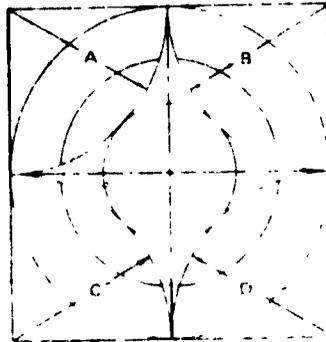

FIGURE 2
- A. Directions. Use "A" size drawing vellum with standard border and title block and divide the working space into two equal parts. Construct a $3\frac{1}{2}$ " square centered on the left side of the working space and construct a figure like the one shown in Figure 2 in that space. Draw $1\frac{3}{4}$ " radius arcs at A, B, C, and D, and construct small arcs so that they intersect as shown in Figure 2. Complete the problem by adding center lines.